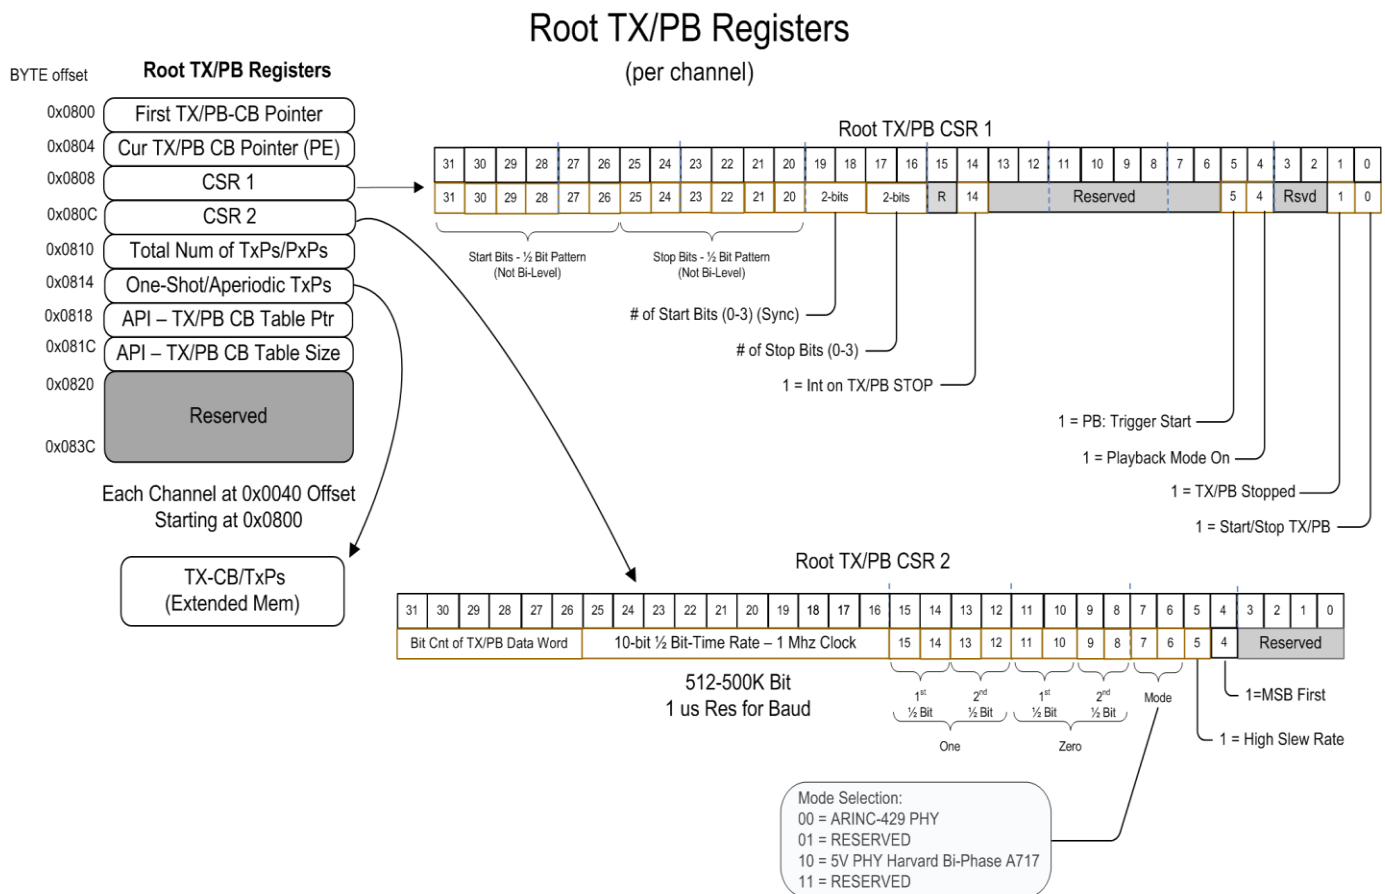

Figure TX-1: Root TX Registers and Root TX CSR
NOTE: The Root TX Registers are also shared with the Playback (PB) Registers, and thus, Figure TX-1 will have acronyms with TX/PB designations. For this section, ignore the PB designation. Please see the Playback section for descriptions of Playback operations.